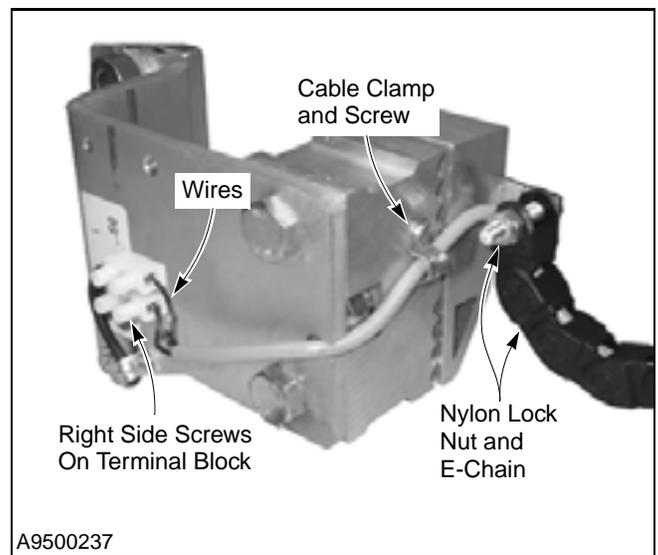

Figure 54
5. Remove nylon lock nut and E-chain from the mounting bolt. (See Figure 54.)